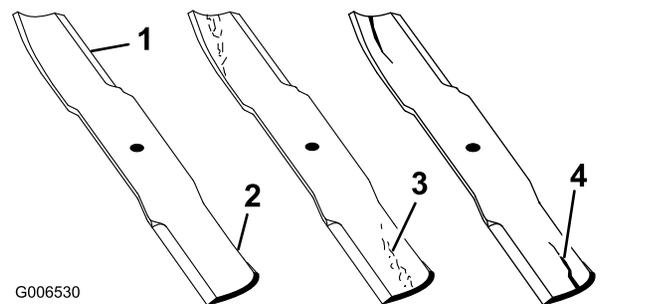

Figure 99
- Inspect the cutting edges (Figure 99).
- If you notice any cracks, wear, or a slot forming in this area, immediately install a new blade (Figure 99).